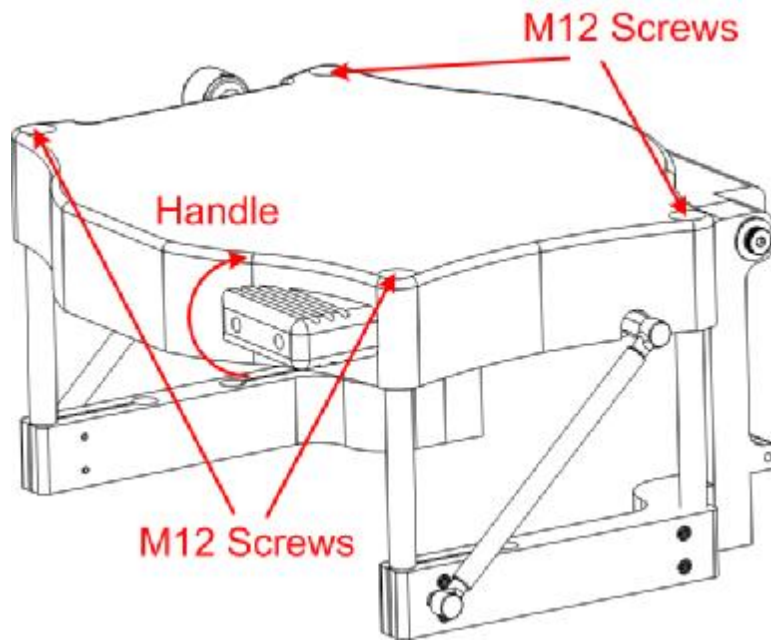

Figure 5: Apogee™ Upper Chamber Assembly (closed)
To access the tilt function, loosen the four (4) M12 screws located in the corners of the upper chamber housing with an 8mm hex wrench, and remove. See Figure 5 (below).